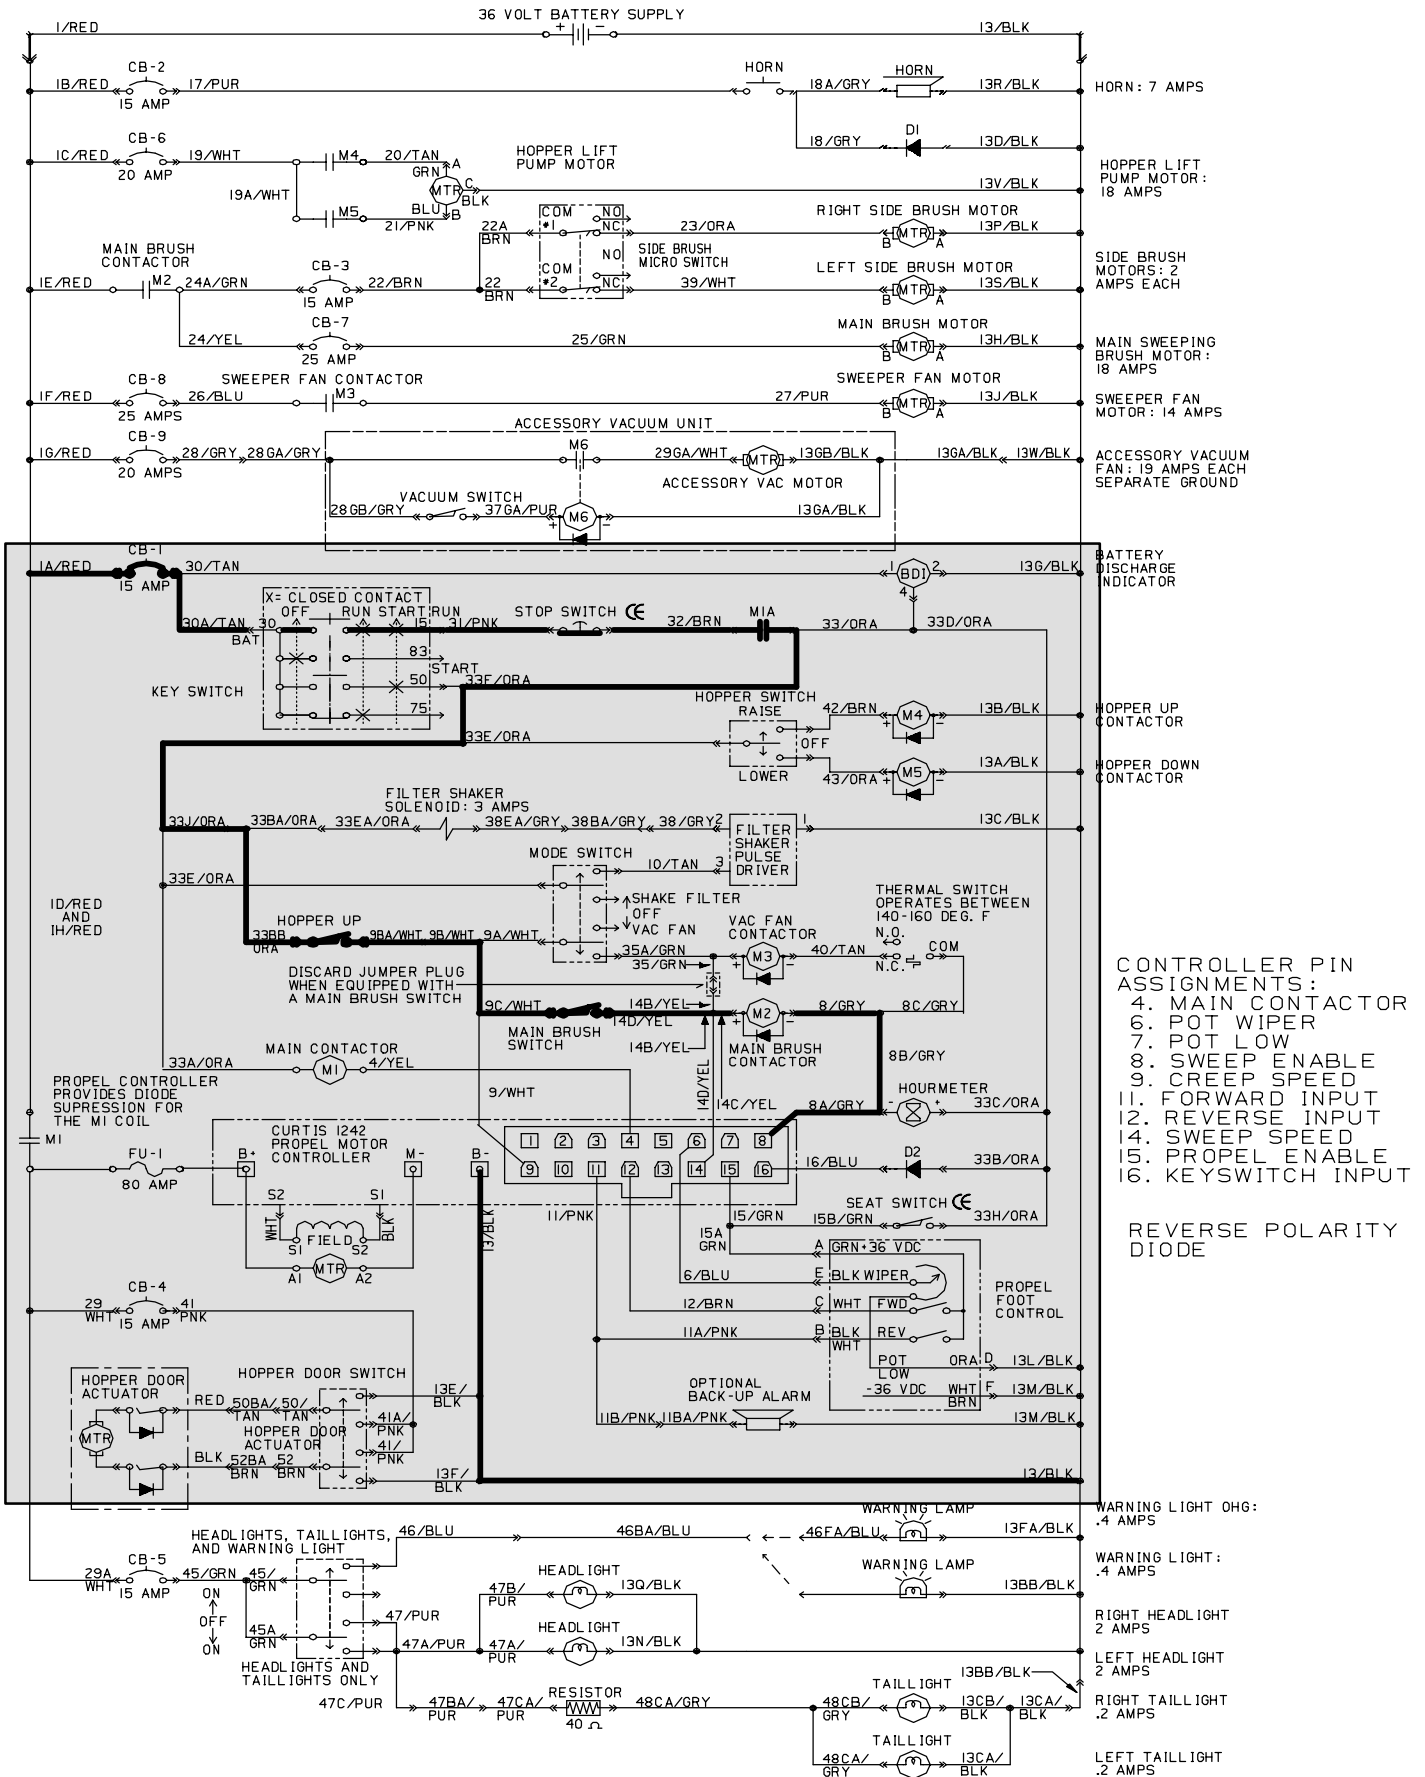

Fig. 8
1. Control circuit. (see fig. 8)